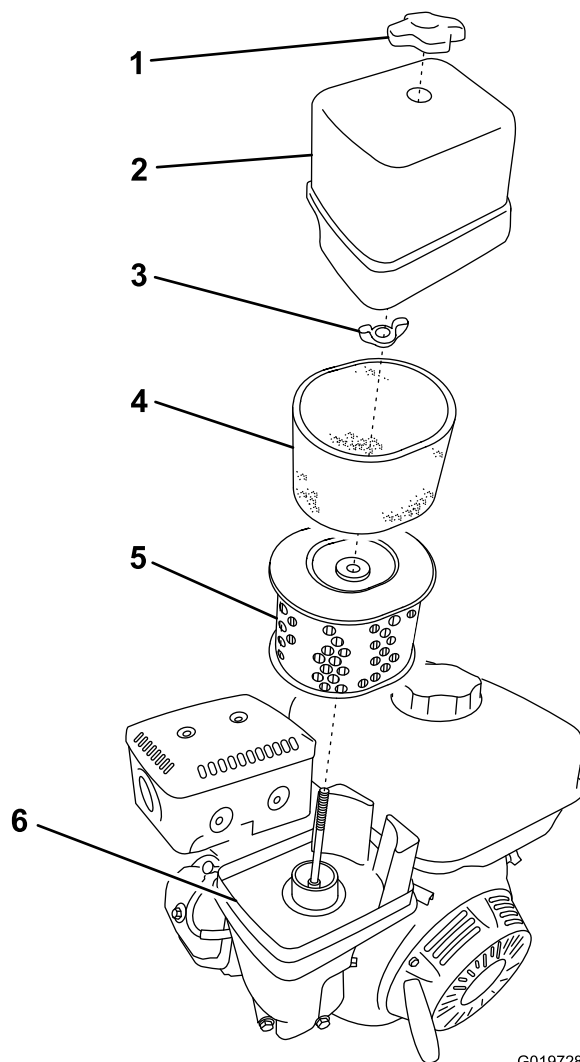

Figure 43
3. Remove the nut that secures the cover (Figure 43).
5. Remove the foam and paper elements from the base (Figure 43).
6. Remove the foam element from the paper element (Figure 43).